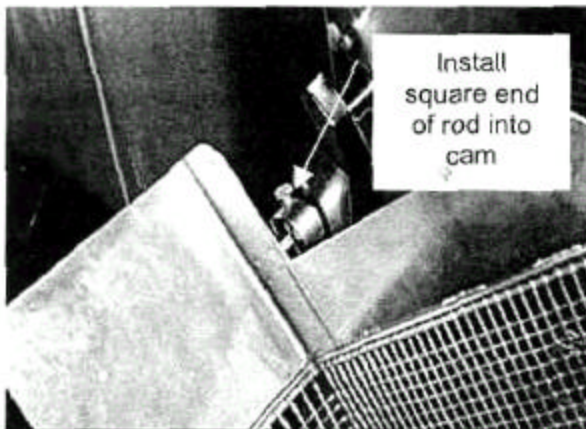

Figure 10A – Basket rod and cam.
- Insert the **square end** of the **basket rod** into the slot in the **basket cam** located on the back wall of the **cook chamber** (see Figure 10A).